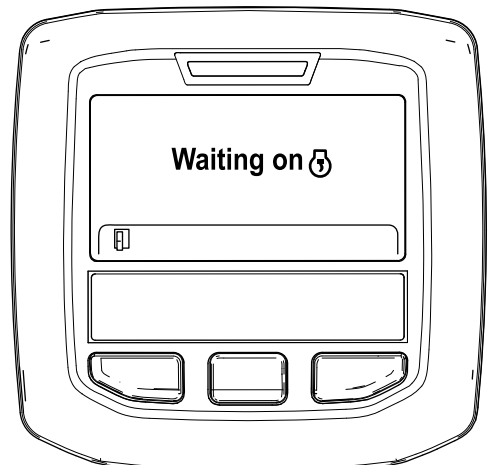

Figure 36
- B. The "Waiting on [engine icon]" message displays (Figure 36).